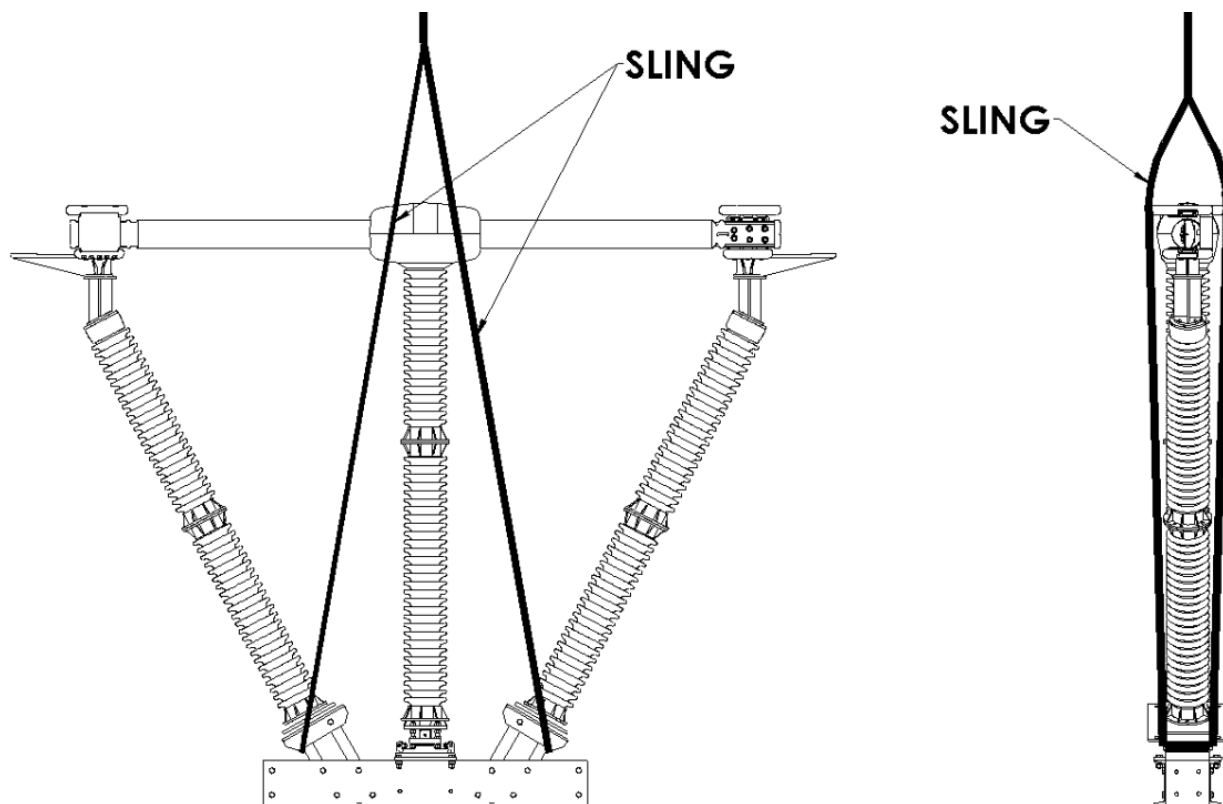

Figure 18: Sling Attachment
- 4.4. Lift the assembled switch by the switch base only. Refer to **Figure 18**.